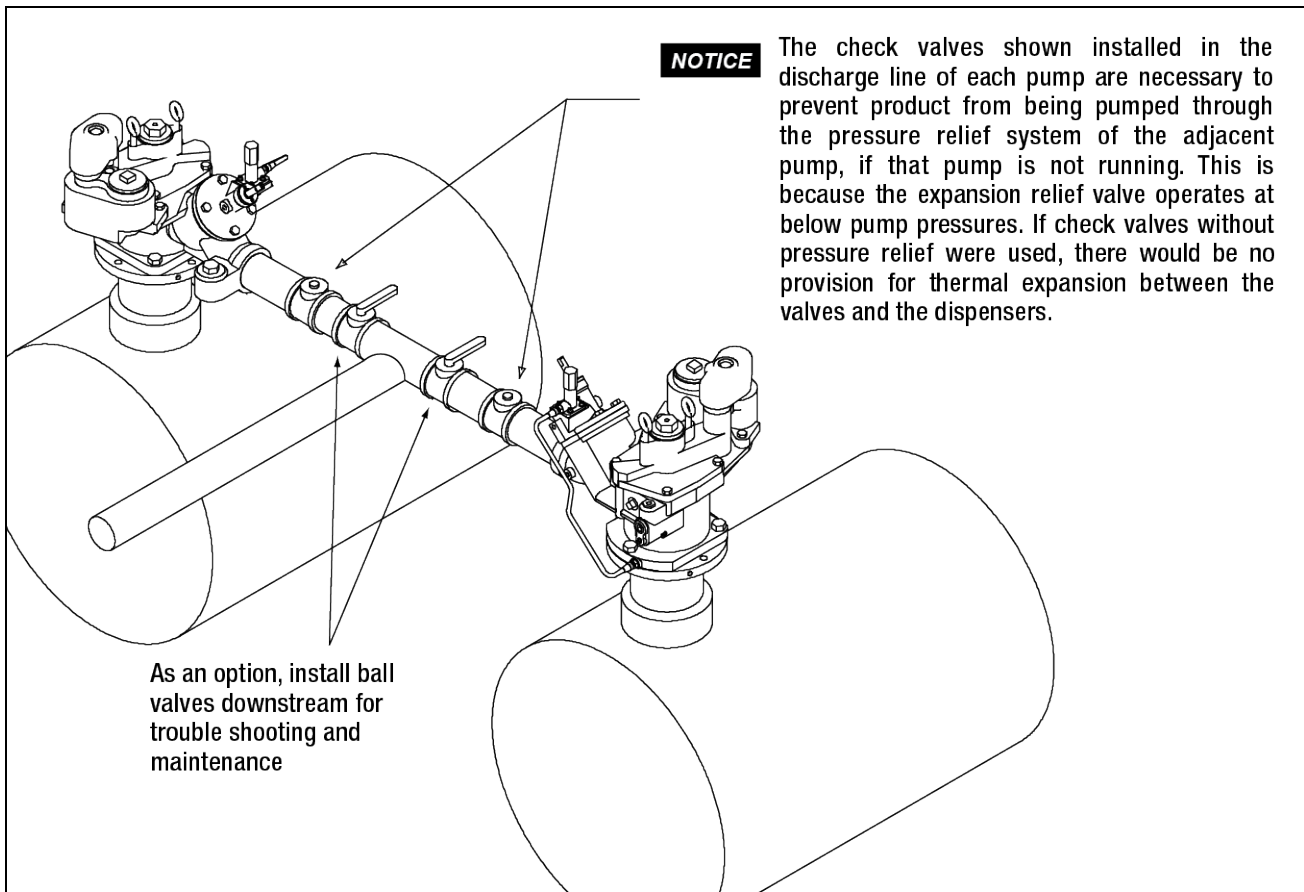

Figure 10. Tandem Pumps
**NOTICE** Figure 10 illustrates the requirement for in-line, pressure relief type check valves. It is not a recommended guide for installation of piping downstream of the check valves.